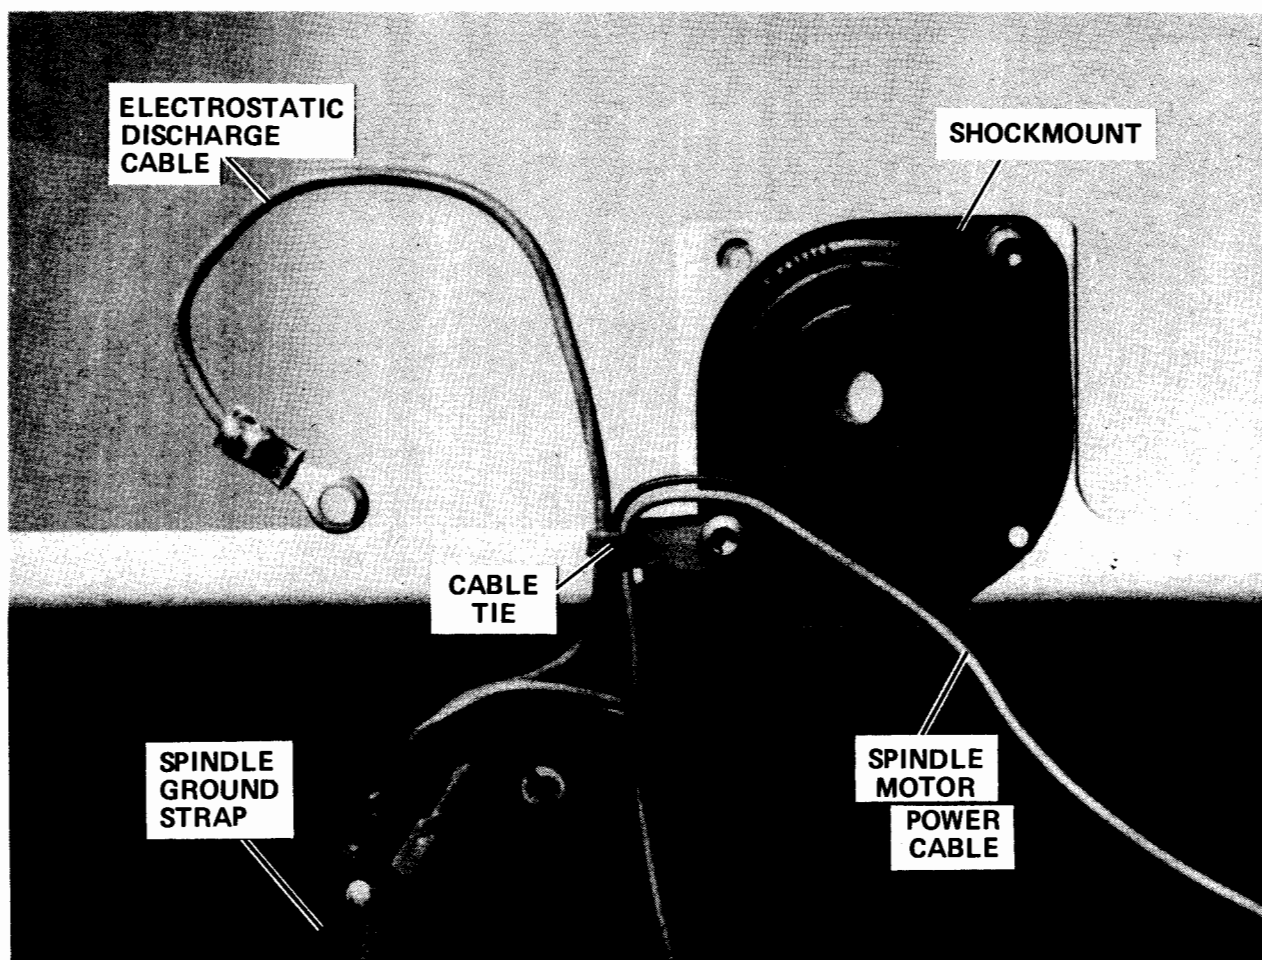

FIGURE 1
**Solution:** To prevent damage to the disc mechanisms of 7908P/R disc drives, a strain relief cable tie must be installed on the electrostatic discharge cable. When replacing the 7908 drive mechanism, the CE must cut and remove the old cable tie and re-cable tie both the electrostatic discharge cable and the spindle motor power cable. (See Fig. 1.) Currently, only the spindle motor power cable is cable tied. Henceforth, a cable tie will be factory installed in this configuration; and a cable tie (P/N 1400-0719) to be used for this procedure will be included with each replacement mechanism. Because disc mechanisms currently in FSI do not include cable ties, the CE should be prepared to provide a cable tie to secure the two cables.